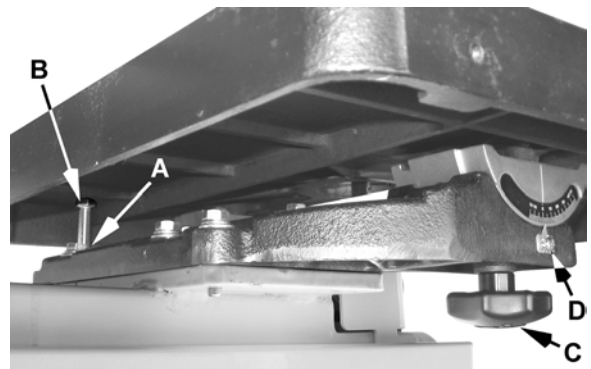

Figure 15
1. Loosen *lock knobs* (C, Fig. 15) and tilt the table until it rests against table stop bolt (B, Fig. 15); then re-tighten the *lock knobs*.
3. If an adjustment is necessary, loosen the *lock knobs* (C, Fig. 15). Tilt the table until it is square to the blade; then re-tighten the lock knobs.
4. Loosen *lock nut* (A, Fig. 15) and turn table stop bolt (B, Fig. 15) until it contacts the table. Tighten the *nut* (A, Fig. 15) to hold table stop in place. When tightening the nut hold the table stop bolt in place with a wrench to prevent movement.
5. If necessary, adjust the *pointer* (D, Fig. 15) to zero.